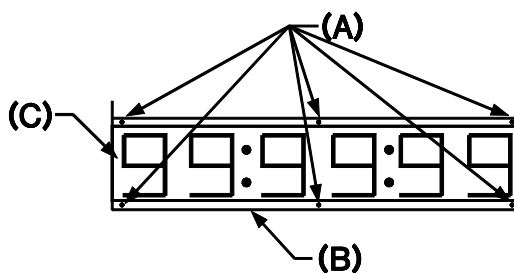

Figure 2-1
Figure 2-1 shows the various components that need to be removed to connect the power and communication cables to the PMD. There are six screws (A) located on the display's front that need to be removed. Once they are removed, you can remove the two angle brackets (B) holding the colored lense in place. Carefully lift the lense (C) to remove and place it where it won't get damaged.